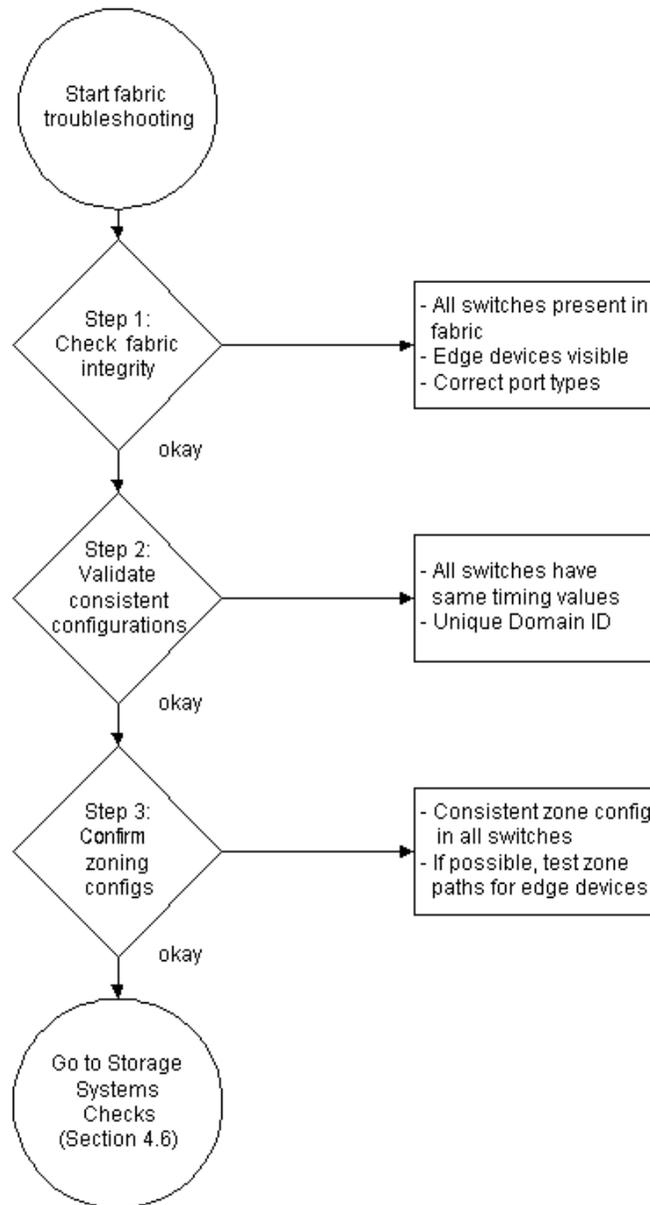

Figure 4-15 SAN fabric switch troubleshooting map
Figure 4-15 on page 149 provides a view of the flow of the basic troubleshooting steps for the problem-determination process for the SAN fabric. Additional descriptions of the individual steps follow the map.
Step 2 of the fabric check map (Figure 4-15 on page 149) is a detailed examination of the links from some, or all, of the fabric devices to the attached edge devices. The main aspects of a link to investigate are that the link is established, and the link is defined as the proper type of connection. Thus, the link to an edge device should be connected to an F_port, or fabric port, at the switch's end. Hopefully, not all edge device connections will need to be checked. During initial rounds of the problem determination process, the reader has defined the scope of the problem. Only the ports with connections to edge devices identified during the initial understanding of the problem's scope need to be checked. It is a rare situation where all fabric ports to edge devices will have to be checked. However, the reader should remember that intermittent problem types or the many-to-many scenario may warrant such an extreme as testing all ports.